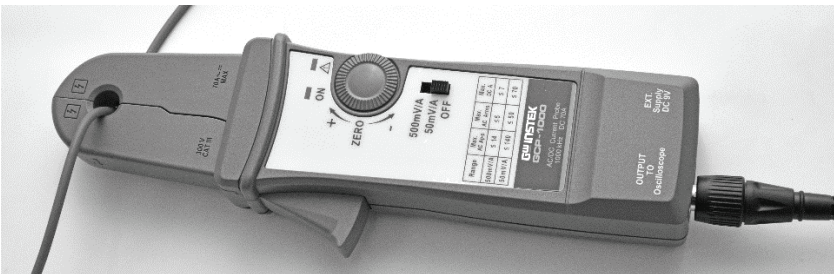

Figure 2. Connecting the GCP-1000 current probe.
4. Connect the probe to the circuit by opening the jaws and clamping around the conductor. See Figure 2.